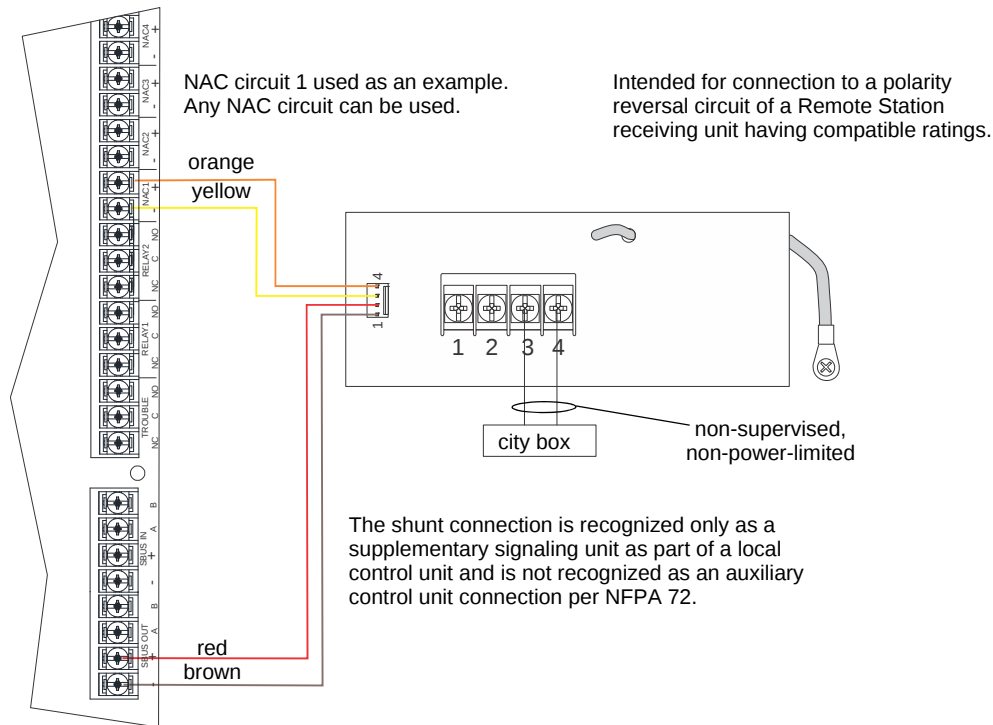

Figure 4.55 City Box Connection
- Wire the 5220 to the control panel as shown in Figure 4.55. This drawing also shows how to connect the city box coil to terminals 3 and 4 on the 5220. Do not install an EOL resistor in the terminals of the Flexput circuit used for this application.